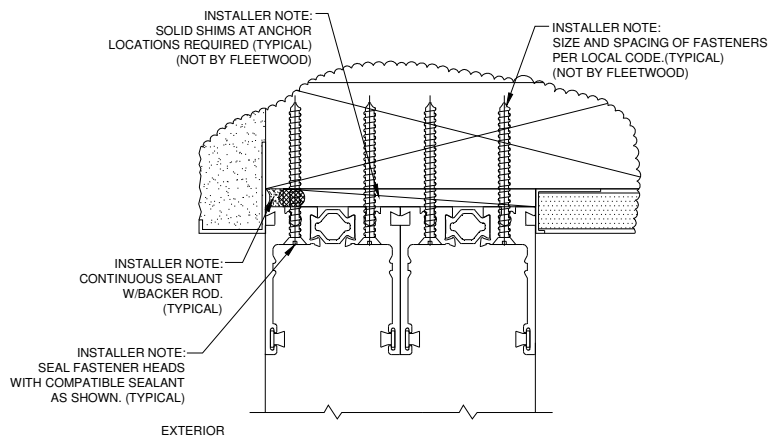

Figure 21:
2. Attach frame to structure as shown below (Figure 21 & 22).